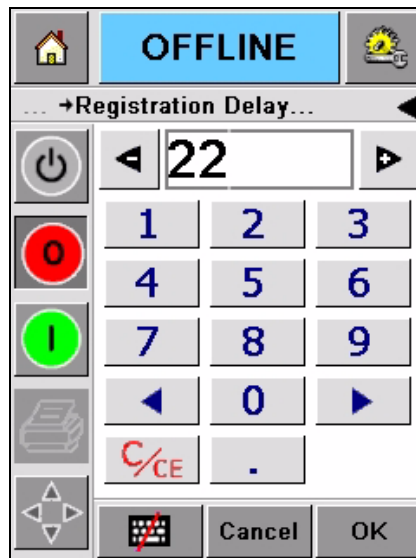

Figure 5-16: Registration Delay - Keypad
- Touch the data entry pad icon and use the pad to enter a new number (Figure 5-16 on page 5-12).